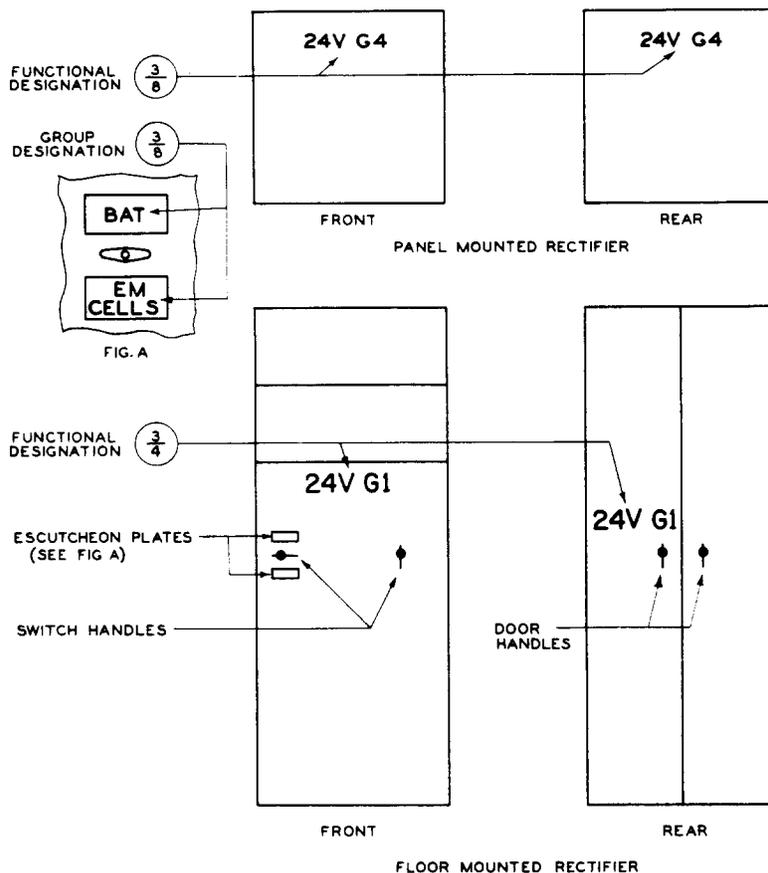

Fig. 38 - Rectifiers
2.50 See Fig. 38. On J-specification rectifiers with removable and/or hinged covers, stamp J-specification number and SD number on panel or chassis preferably on maintenance side.